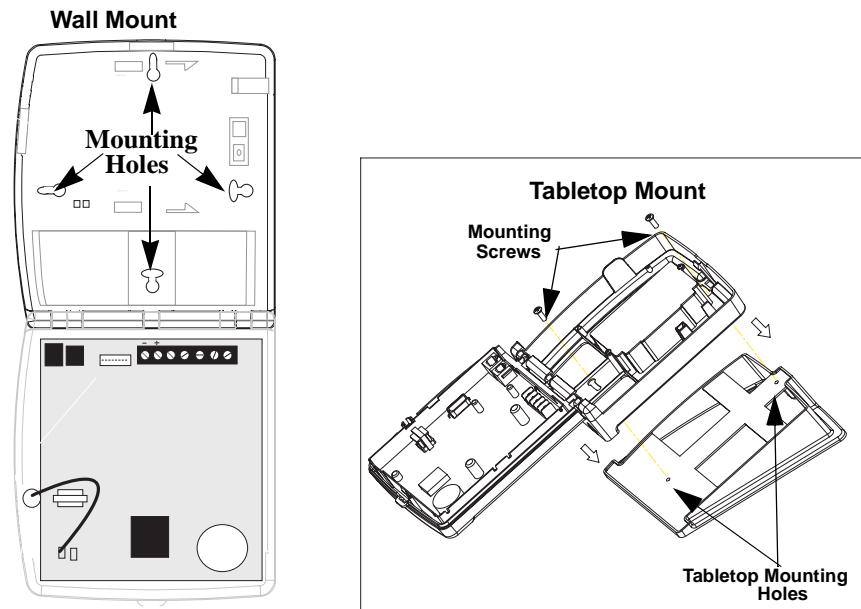

Figure 3. Panel Mounting Hole Locations
3. Refer to Figure 3 (Wall Mount) for mounting hole locations.
3. Refer to Figure 3 (Tabletop Mount) for mounting hole locations.
The panel has 5 screw terminals located on the upper-right corner of the circuit board (see Figure 3) for connecting AC power, sirens and/or hardwire detectors.